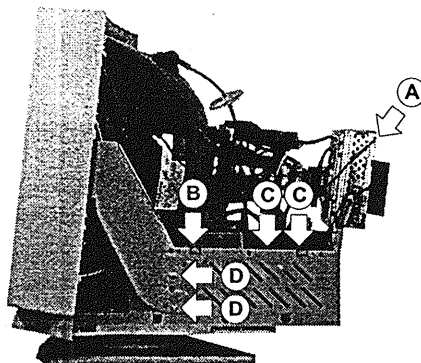

Figure 2-4 Remove the Neck Board (right side)
1. Disconnect the ground wire from the neck shield. Refer to the figure 2-4 (A).
2. Release the cord cramp from the FBT cover. Refer to the figure 2-4 (B).
3. Remove the two connected pins from the main board. Refer to the figure 2-4 (C).
1. Remove the two screws from the shield. Refer to the figure 2-4 (D).